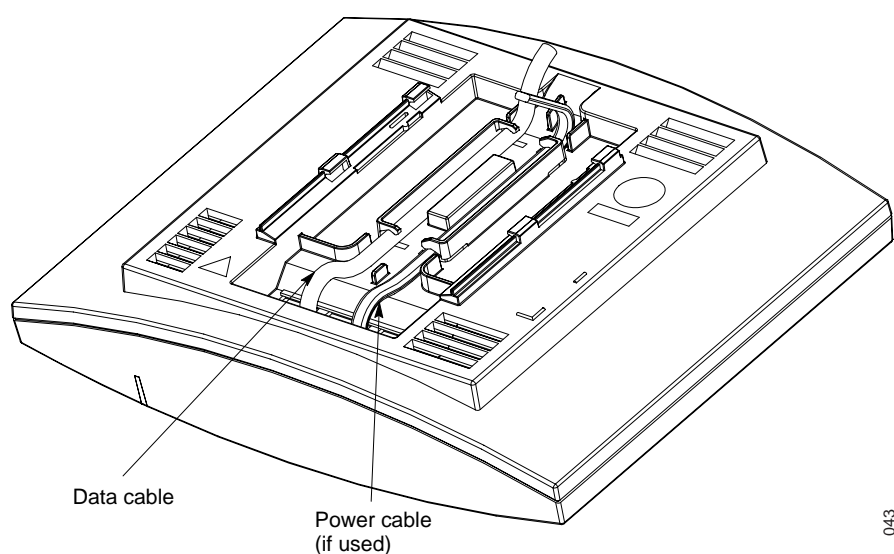

Fig. 41 Cables entering the base station centrally from above
1. If it is required that the cables enter the base station centrally from above, guide the cables through the recess in the middle of the base station as shown in figure 41.